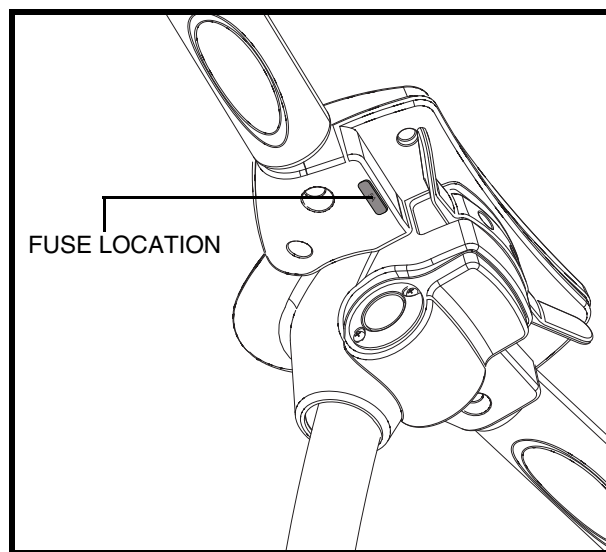

Figure 6. Off-board Charger Fuse
The fuse located on the underside of the tiller console protects the batteries during charging. See figure 6. In the event the batteries will not charge, check this fuse. See VIII. "Basic Troubleshooting" for fuse replacement instructions.
- Ensure that the fuse on the tiller console is in working condition. **See figure 6.**